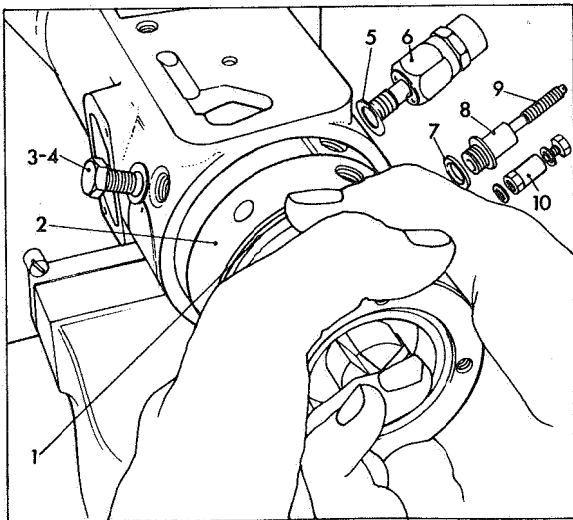

Fig 89 Inserting hydraulic head
Assemble new seal (1) Fig 89 to hydraulic head and rotor assembly (2), lubricate with clean test oil the portion of the head that fits into the pump housing, offer up the hydraulic head to the pump housing. Insert the head into position with a rotating motion so that the splines on the inner end of the drive shaft engage with the splines in the drive plate. Rotating the head on entry prevents damage to the seal. Align its metering valve bore with contour in machined face of housing and when the head is in position, secure with head locking screw and washer (3 & 4) and cambox proportional pressurising valve and washer (5 & 6) finger tightened and in the same positions as noted when dismantling.